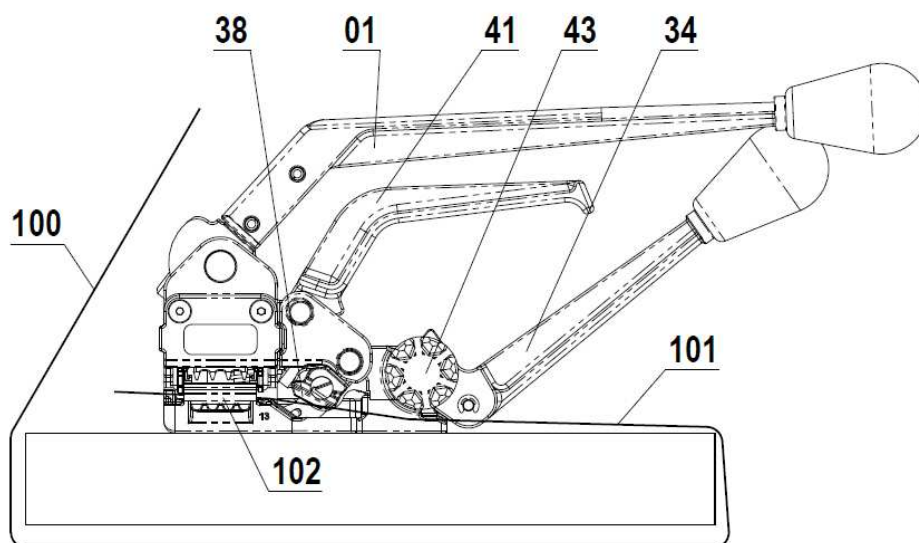

Fig. 3
2. Pull up on **Handle 41** to raise **Gripper Head 38**. Load bottom strap **101** inside the seal **102**, under **Windlass 43** and under **Gripper Head 38** and leave at least 1" of the strap extended out from the front of the tool as shown on Fig. 3.